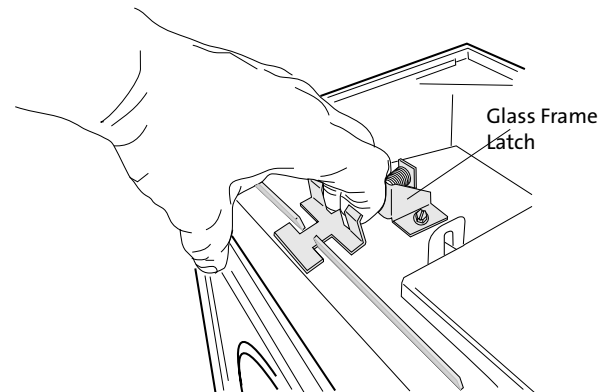

Figure 49. Release the glass frame latches.
2. **Remove the Glass Frame.** Disengage the two compression latches located at the top of the firebox and lift the glass frame up and off of the stove. See Fig. 49.